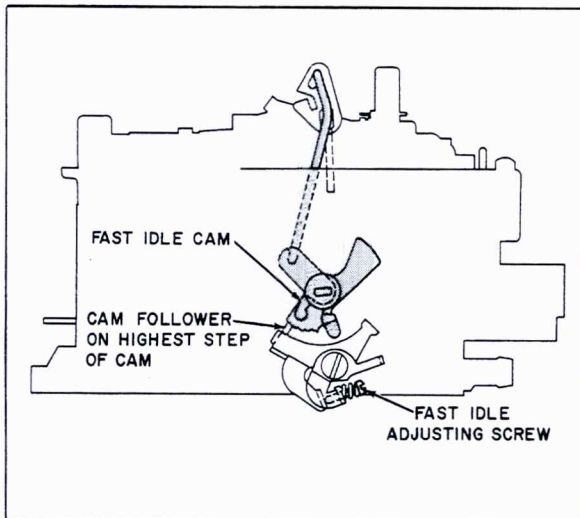

Fig. 6-89 Fast Idle Adjustment
92. Fast Idle Adjustment (On Car) (Fig. 6-89)
3. Open throttle slightly. Set fast idle cam follower on highest step of cam, Fig. 6-89.
5. Observe idle speed and adjust fast idle screw, Fig. 6-89, to give 1900-1950 rpm with transmission in Neutral. Return engine to normal idle and install air cleaner.